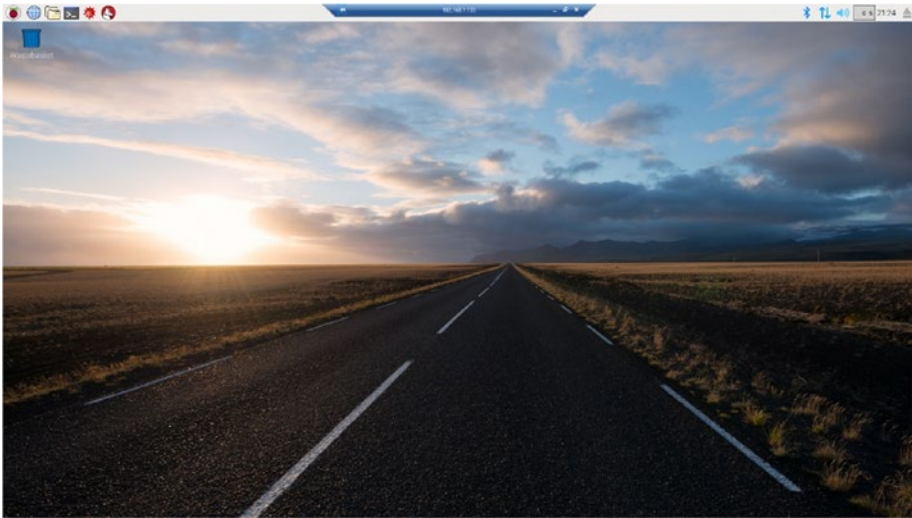

Figure 2-12. *Default Raspbian desktop viewed through a remote desktop session*
10. Click **OK**. This opens the desktop from your Pi (see Figure 2-12).